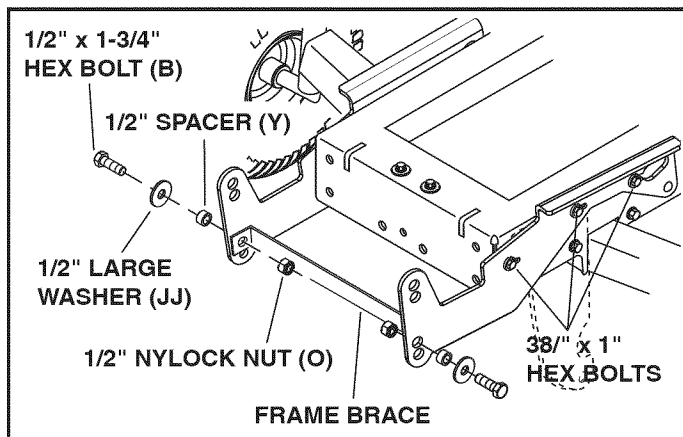

FIGURE 22
STEP 23: INSTALL FRAME BRACE (SEE FIGURE 22)
- Install the frame brace between the side plates using two 1/2" x 1-3/4" bolts (B), large 1/2" large washers (JJ), 1/2" spacers (Y) and 1/2" nylock nuts (O). Use the second hole from the bottom in the plates. **Tighten.**
- **Tighten** 3/8" x 1" hex bolts (E) in side plates only until they are snug and the lock washers are flattened.